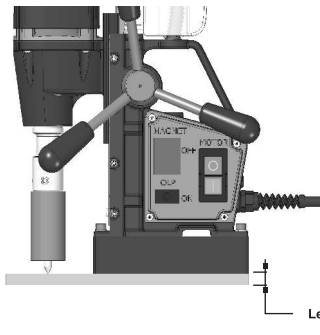

Fig. No. 17
- f) If workpiece under drilling is thin. use an iron plate larger than base as shown in fig. No. 17, 18.